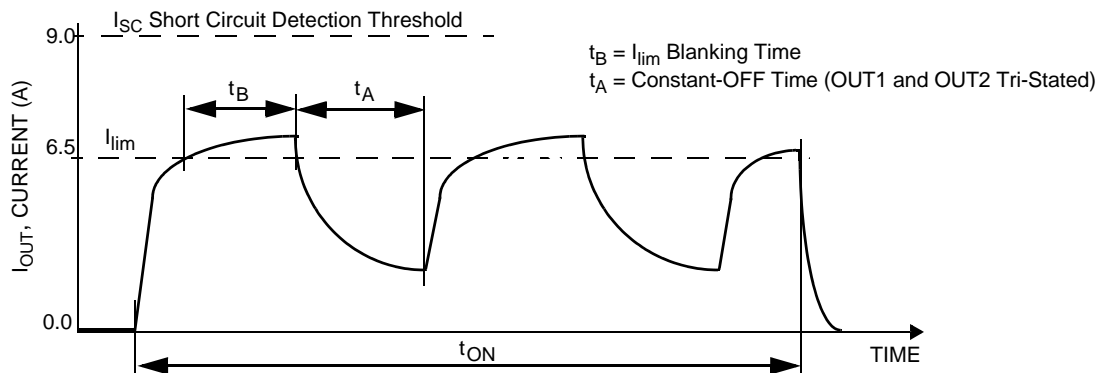
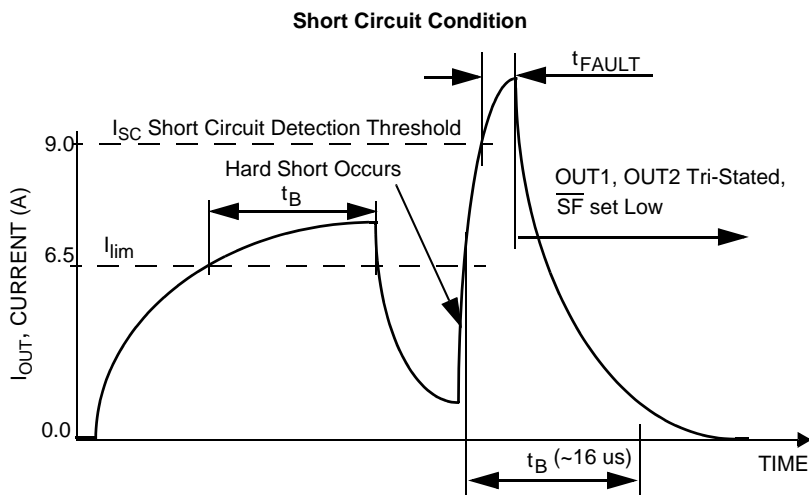
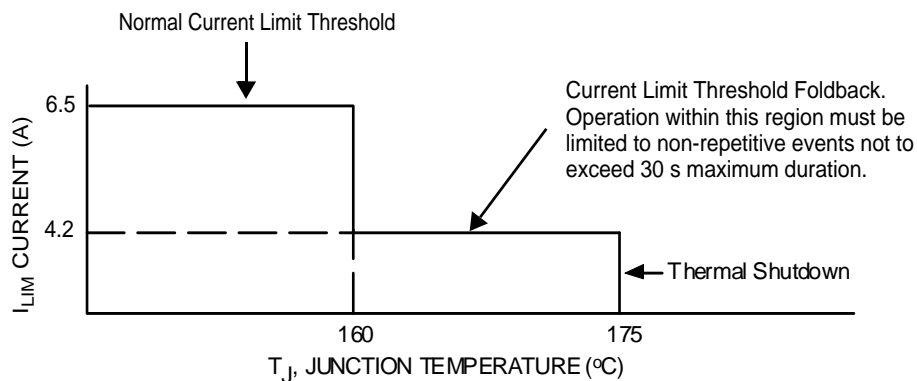

Figure 7. Current Limit Blanking Time and Constant-OFF Time
Figure 8. Short Circuit Detection Turn-OFF Time t_{FAULT}
Figure 9. Output Current Limiting Foldback Region
28. Load currents ramping up to the current regulation threshold become limited at the I_{LIM} value (see Figure 7). The short circuit currents possess a di/dt that ramps up to the I_{SCH} or I_{SCL} threshold during the I_{LIM} blanking time, registering as a short circuit event detection and causing the shutdown circuitry to force the output into an immediate tri-state latch-OFF (see Figure 8). Operation in Current Limit mode may cause junction temperatures to rise. Junction temperatures above $\sim 160^\circ\text{C}$ will cause the output current limit threshold to “fold back”, or decrease, until $\sim 175^\circ\text{C}$ is reached, after which the T_{LIM} thermal latch-OFF will occur. Permissible operation within this fold back region is limited to non-repetitive transient events of duration not to exceed 30 seconds (see Figure 9).